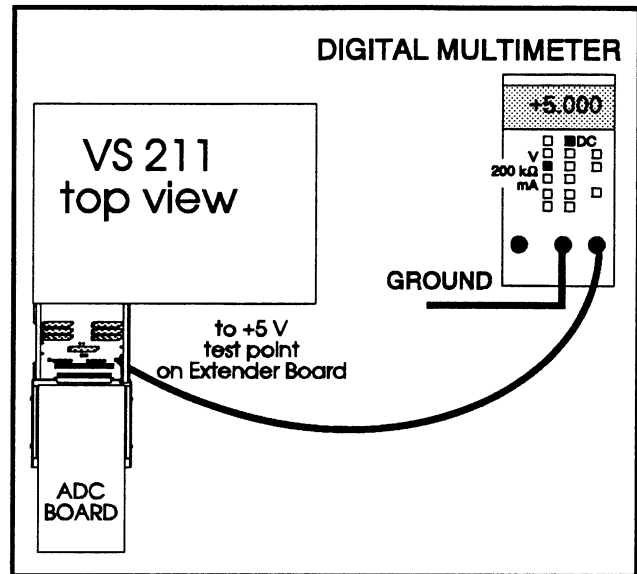

Fig. 4-22. Setup to adjust the +5 V supply.
- b. Connect the DMM as shown in Fig. 4-22.